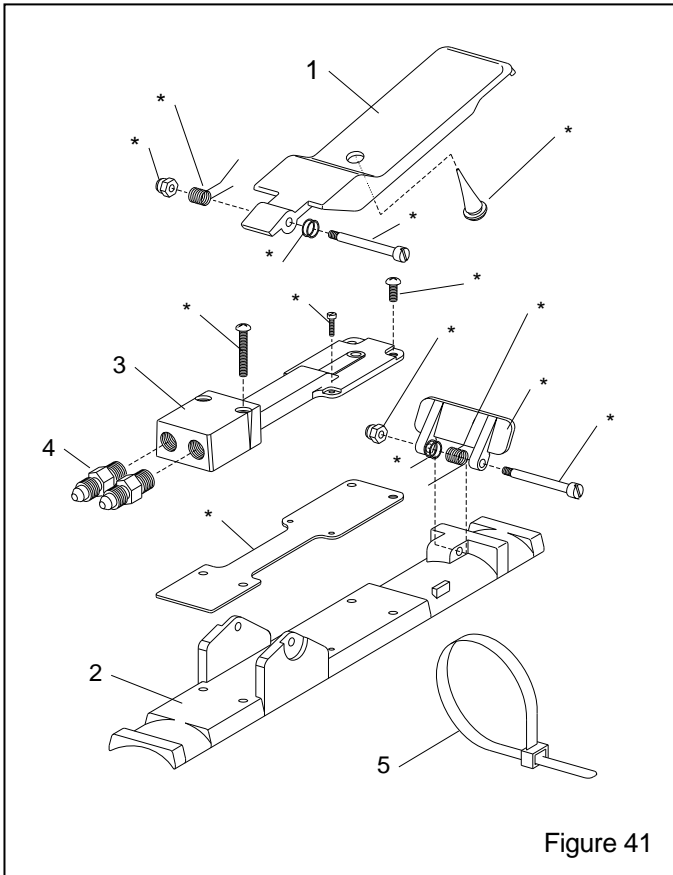

Figure 41
8.9 RLX Pneumatic Control Handle, Figure 41